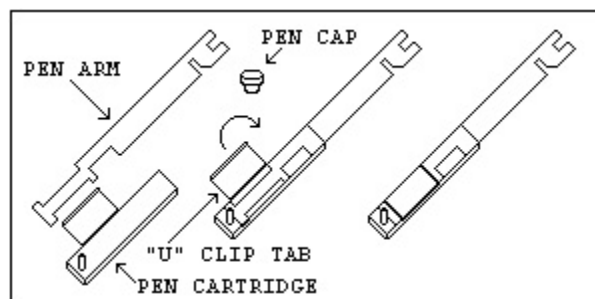
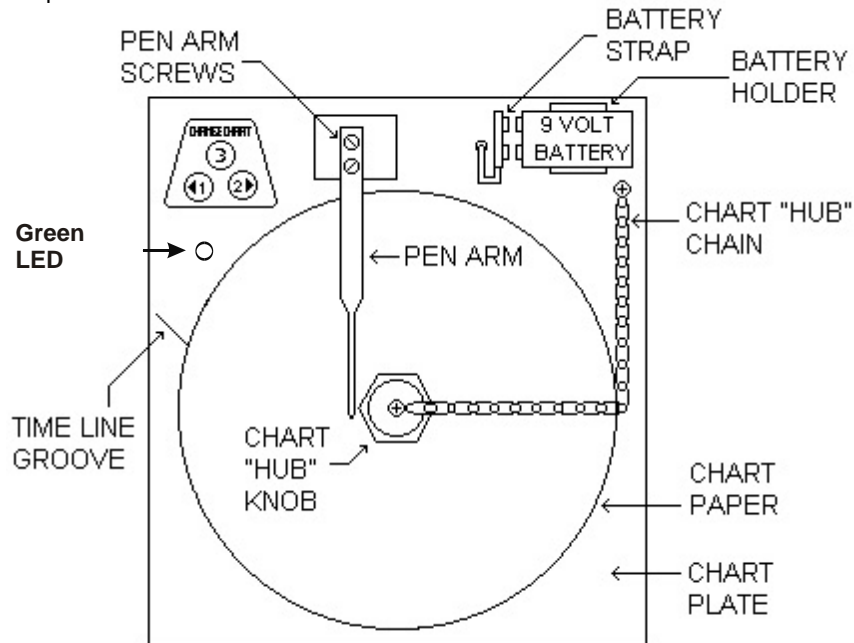

Figure 2.8 Pen Replacement
Figure 2.10 Recorder Platen Layout/Battery Installation
Unscrew the chart "hub" knob at the center of the chart. Remove the old chart paper and position the new one so that the correct time line coincides with the time line groove on the chart plate. Refer to Figure 2.10 (Page 17) for the location of the time line groove.
For ease of replacement, it is suggested that the two (2) screws that hold the pen arm be loosened and the pen cartridge and metal pen arm be removed as an assembly. Refer to Figure 2.10 (page 17) for the location of the pen arm screws. Unsnap the plastic "U" clip tab of the pen cartridge from the metal pen arm, remove and discard the old pen cartridge. Replace the new cartridge by opening the hinge and snapping it securely around the metal pen arm. Refer to Figure 2.8 for pen cartridge replacement.
The battery strap and battery holder are located on the front of the chart plate (refer to Figure 2.10). In order to change the battery, you must open the recorder case door. Note: Use only NEW 9 volt alkaline replacement batteries.